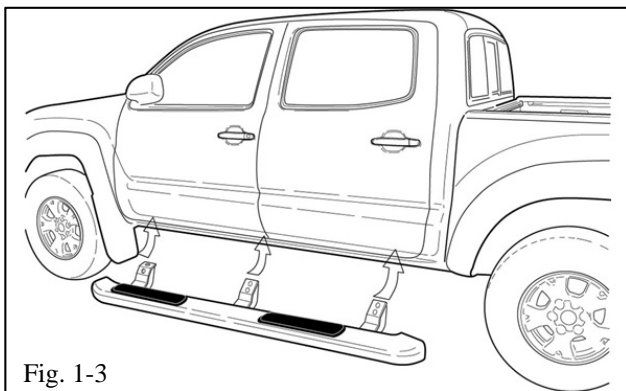

Fig. 1-3
- (b) Place the side step under the vehicle and line up the mounting holes on the brackets with the mounting holes on the vehicle (Fig. 1-3).